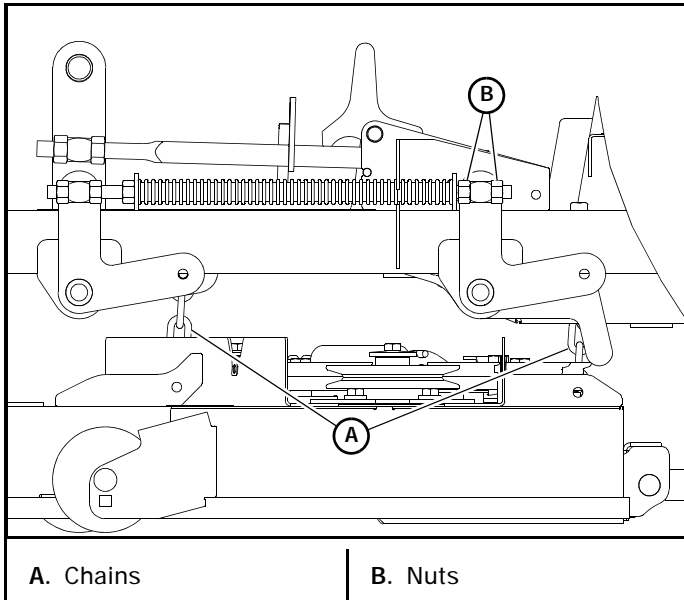

Figure 6-7
21. Tighten the appropriate nut until the chain just becomes tight, and carries most of the deck weight. Check by moving the block—it should move with a slight drag. Figure 6-7